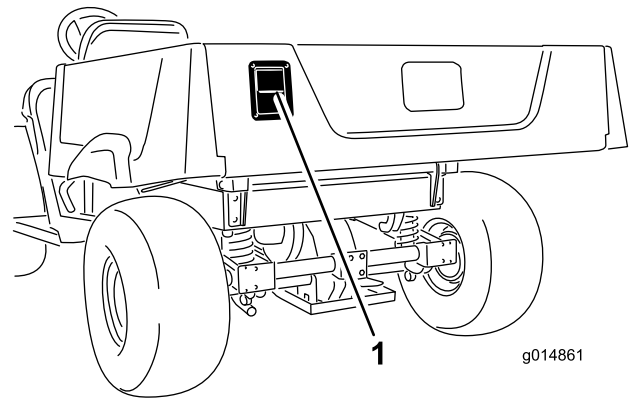

Figure 14
- To open the tailgate, pull outward and lift the latch up, then slowly lower the tailgate (Figure 14).